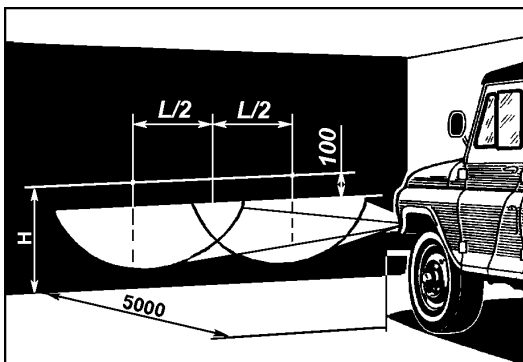

Fig. 76. Aiming
**Adjust the fog lamps** that the area of concentrated light on the aiming screen or the wall is located as indicated in Fig. 76. For replacing the fog lamp bulb, remove the cover of the bulb holder by turning it counterclockwise and take out the bulb.